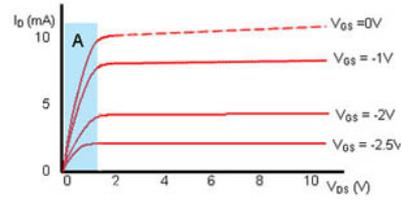

Fig.4.7.3
7. Fig.4.7.3 shows a JFET Output Characteristic graph. What does the area labelled A indicate?